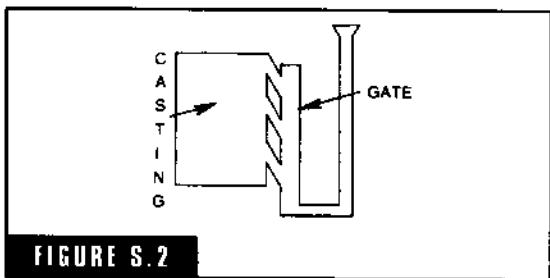

FIGURE S.2
**saxophone gate** A gate designed to provide the same conditions as a step gate only delivering metal to the casting at different levels as the mold is filled (Fig. S-2).